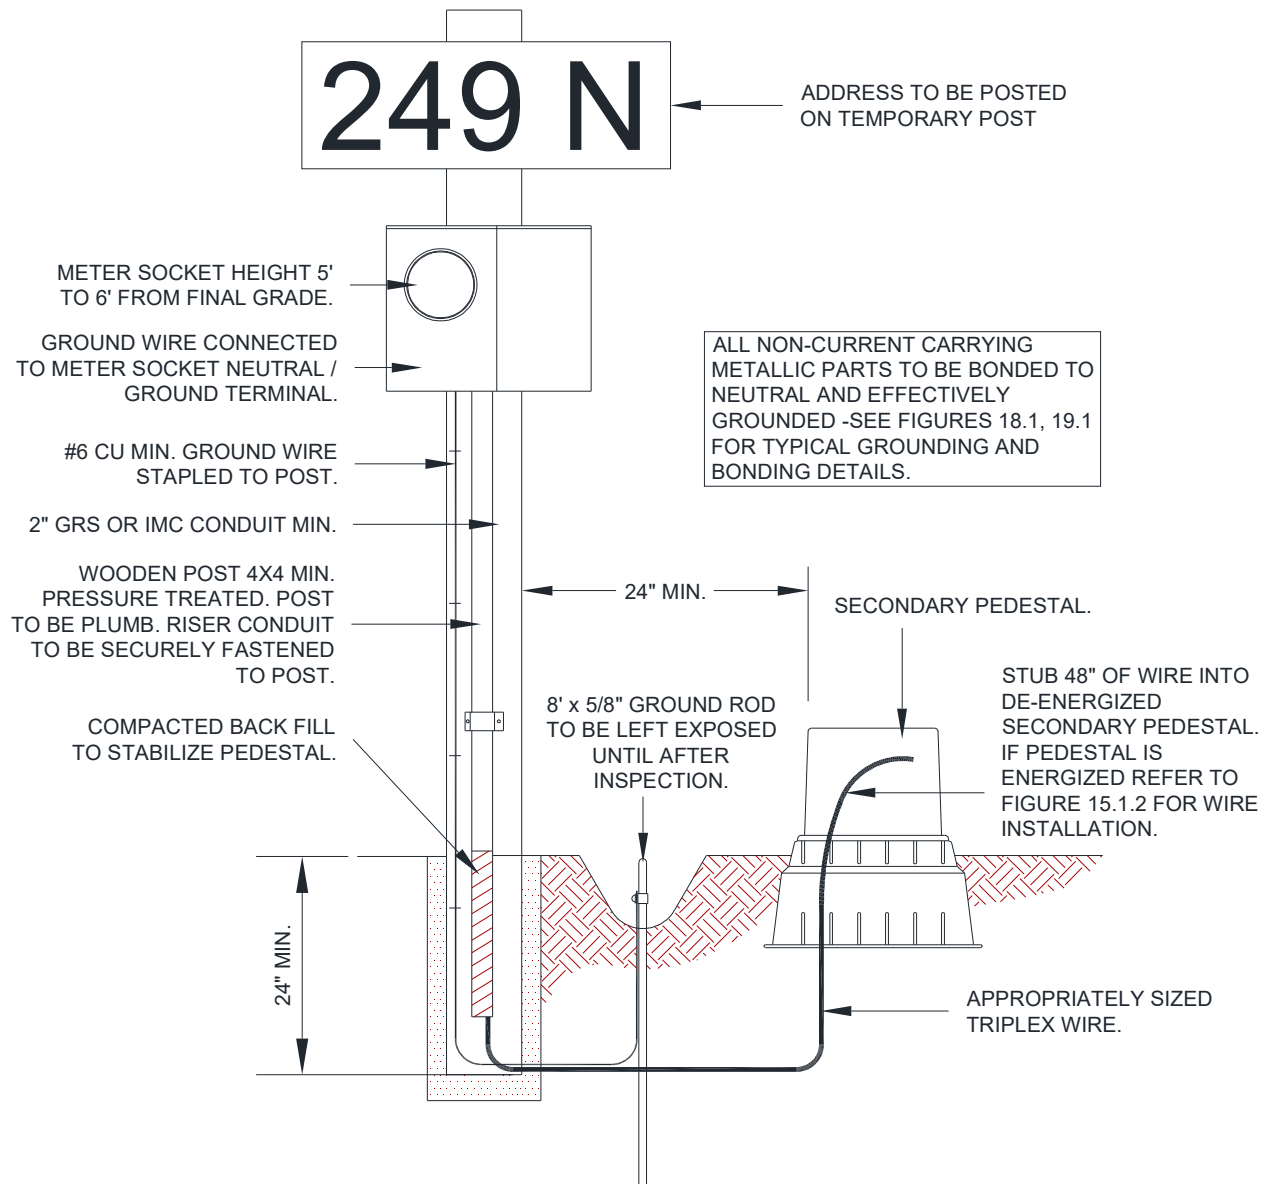

Figure 2.1 Underground Temporary Power
- 1.1.2 Provo City Power requires owner\builder to supply and install temporary power pole including meter base, disconnects and outlets. (See Figures 2.1, 3.1)